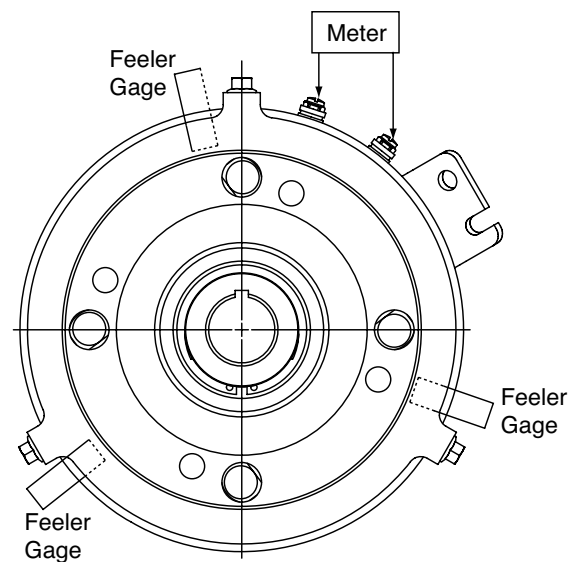

Figure 1
2. Apply 12 volts to engage the clutch. Loosen but do not remove the three brake mounting screws. Insert a 0.015" feeler gauge or equivalent thickness shim stock at each screw location being careful to locate the gauge between the armature and brake ring. (Figure 1 and 2)
4. Connect meter lead wires to the terminals of the clutch (Figure 1)